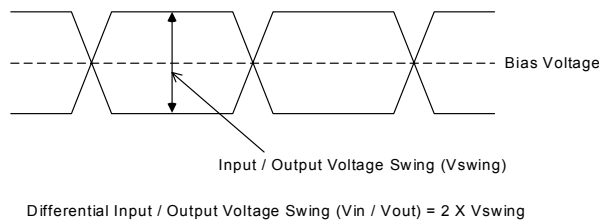

Figure 6. Definition of differential input/output voltage swing
1. Refer to Figure 6.
1. Rdiff=100ohm. Refer to figure 6.